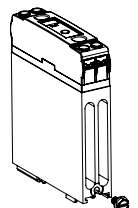

fig. 3 DR22 model with Protective Earth screw
- Protective Earth (PE) screw type recommended is 10-32 UNC standard, not provided with SSR. Through the use of a DIN rail ground (protective conductor) terminal block, the DIN rail itself can be used as the grounding bus bar. In this case, the zinc plated steel material used for the DIN rail clip of DR22 models, permits a secure path to ground and avoid the need of a further PE connection (see fig.3).